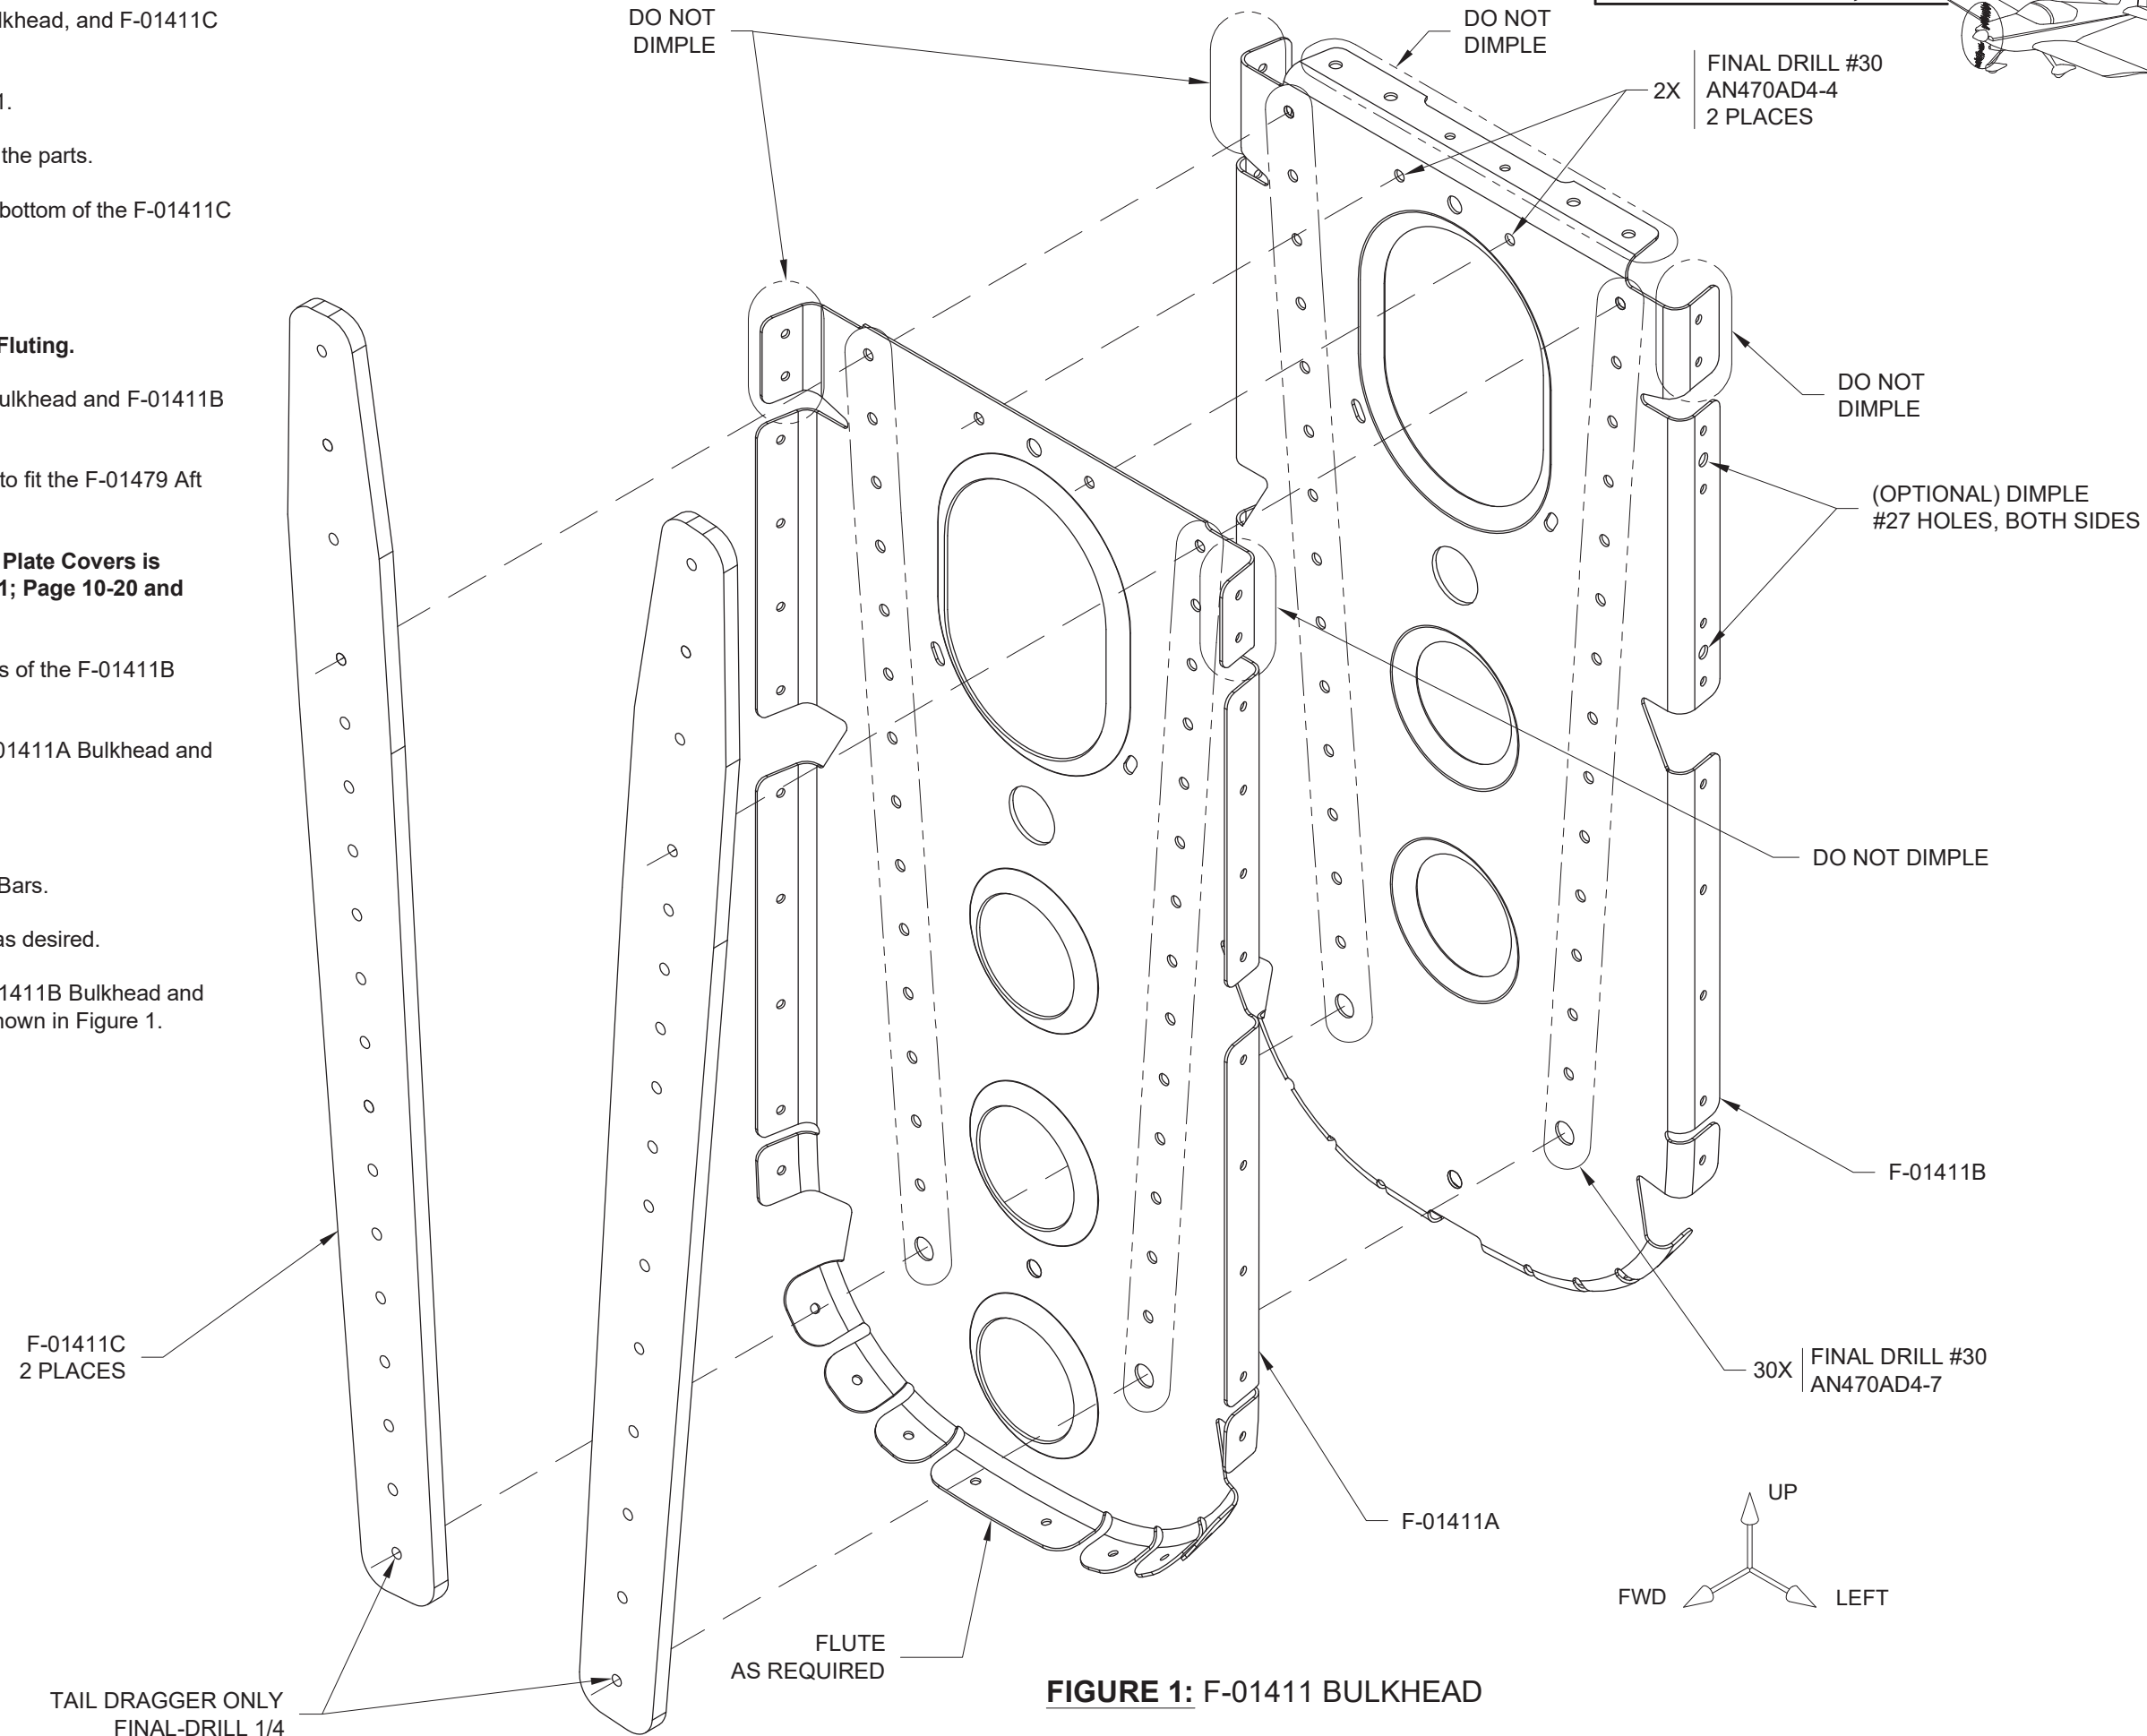

FIGURE 1: F-01411 BULKHEAD
Step 7: Cleco then rivet the F-01411A Bulkhead, F-01411B Bulkhead and F-01411C Horizontal Stab Attach Bars together as shown in Figure 1.
Step 1: Use a step drill to enlarge the Systems Hole in the F-01410 Bulkhead to 5/8 [15.9 mm]. See Figure 1.
Step 2: Dimple the #40 holes in the flanges of the F-01410 Bulkhead, except as shown in Figure 1.